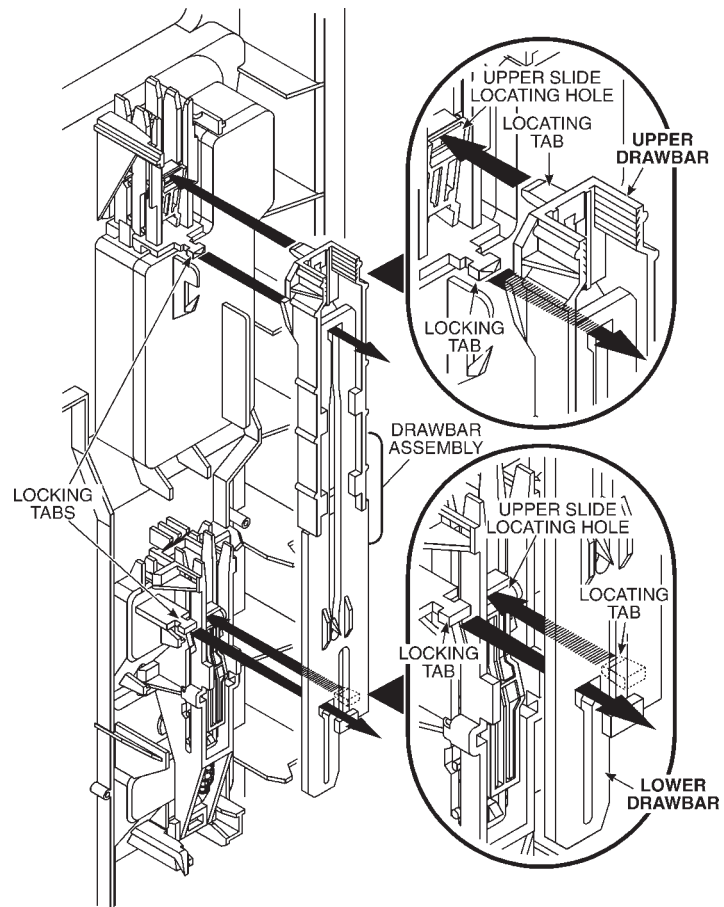

Fig. 1-27
2. Align the lower drawbar holes with the locking tabs and remove the upper and lower drawbars. As you do, note the locating tabs behind them and how they align with their respective locating holes. (Fig. 1-27)
11. Move all slides in both assemblies fully down. Keep the drawbars slid fully together and align the drawbar holes over the locking tabs. Look behind the draw bars and make sure to engage the locating tabs with their respective locating holes. Press the drawbars into position and slide them upward behind the locking tab ears. (Fig. 1-27)